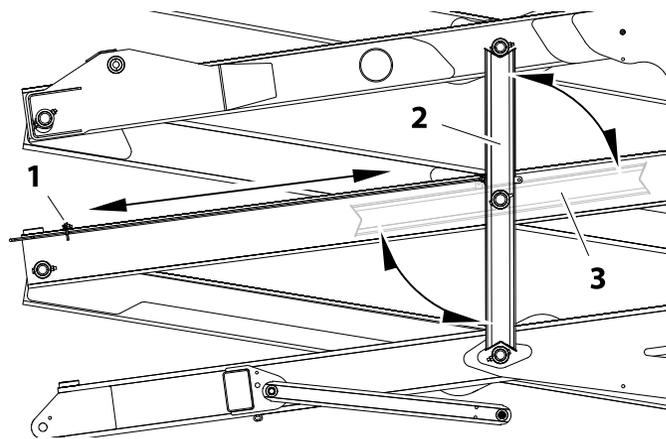

Figure 6-4. Scissor Arm - Safety Prop Assembly
1. To engage the safety props, raise the unloaded platform high enough to allow the safety props to rotate vertically into position. (See Figure 6-4.)